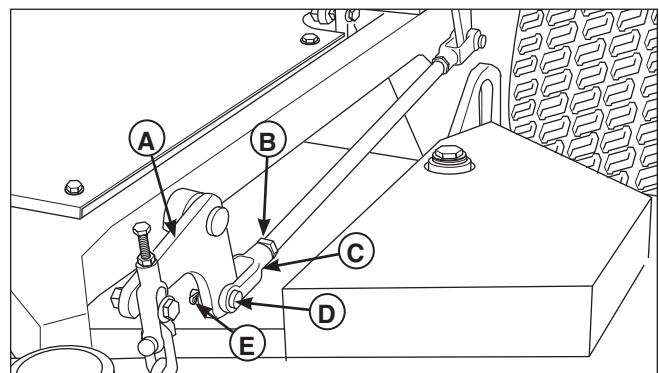

Figure 26. Lift Rod Clevis Adjustment
7. Refer to Figure 26. To adjust the lift rods the 1/2-20 steel clevises (C, Figure 26) will need to be adjusted. Loosen the 1/2-20 jam nut (B) that tightens against the clevis. Remove the cotter pin (E), and the clevis pin (D) that are connected to the front deck lift pivot (A). Turn the clevis to adjust the length of the rod. Reinstall the clevis pin and the hair pin. Tighten the 1/2-20 jam nut. Measure and record the distance between the lift pivots and the rod pivots. Repeat the process until the measurements are equal.